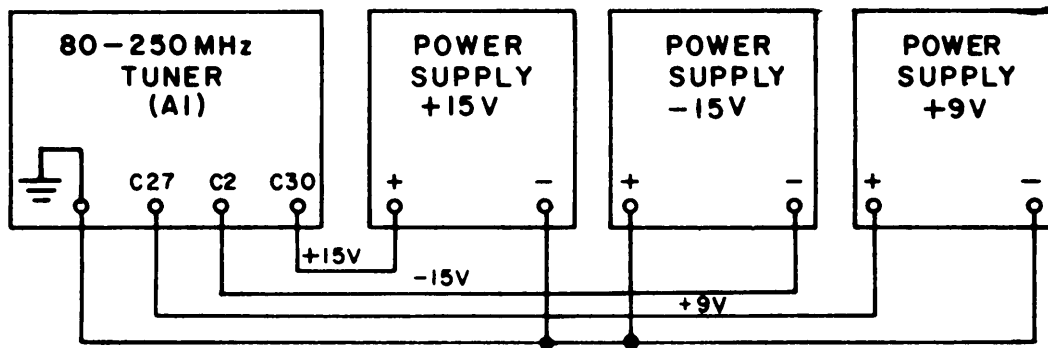

Figure 4-4. Test Setup, 80-250 MHz Tuner, Power Circuit Connection
- (1) Remove the tuner from the associated receiver's chassis (if any) according to the procedure given in paragraph 2.2.
- (2) Connect the operating voltage to the tuner as shown in Figure 4-4.